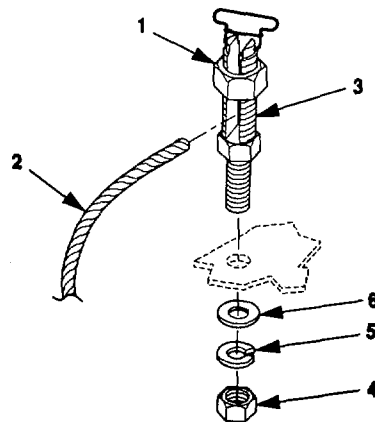

Figure 4-29. PU-797A and AN/MJQ-35A Ground Stud Replacement.
1. Loosen nut (1, figure 4-29) and remove ground wire (2) from ground stud (3).
2. Remove nut (4), lock washer (5), flat washer (6), and ground stud(3).